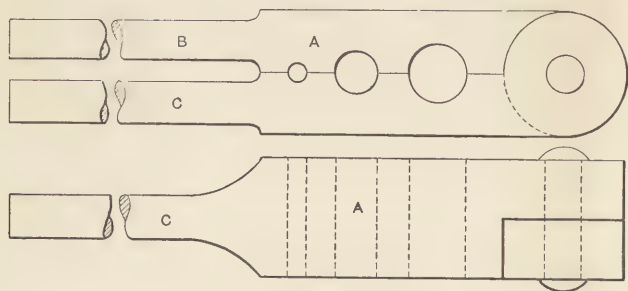

Fig. 13. Heading Tool.
**Heading Tool.**—Fig. 13 shows a handy heading tool for special work that cannot be done in the common heading tool. The heavy part *A* should be of tool steel and the handles *B* and *C*, which are of machine steel, welded on. The tool can be made in different sizes and different sized holes drilled when the heading tool is closed, to accommodate work of different dimensions. The two parts of the tool should be fastened together with a strong rivet.